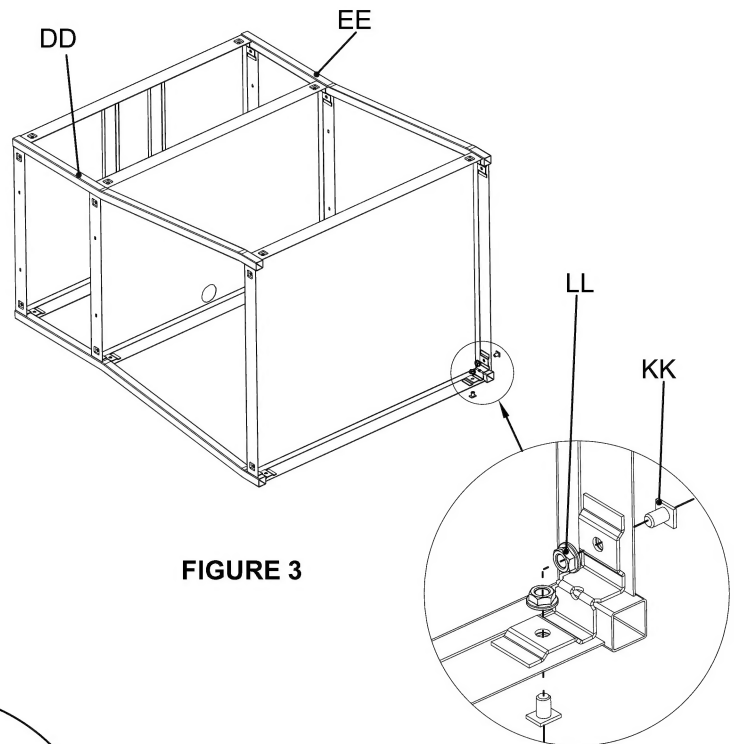

FIGURE 3
Secure each corner of the shelves and legs together with two bolts (KK) and two nuts (LL) using the flat hex wrench as shown in **Figure 3**.